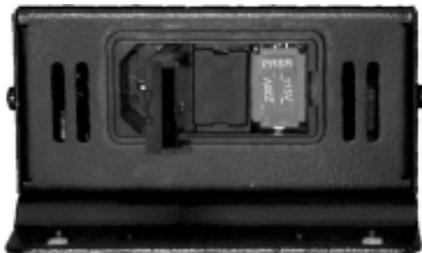

Figure 7.2 Back panel with fuse door open
- 3) Note how the red fuseholder is oriented (See Figure 7.2). For models operating in the 100-120V range, the 115V lettering will be on the right and the letters PRSR will read across the top. In all other models, the 230V lettering will appear on the right. After observing the orientation of the fuse holder, use your small screwdriver to pry it out. **Be careful, the fuse may pop out immediately when removing the holder.**